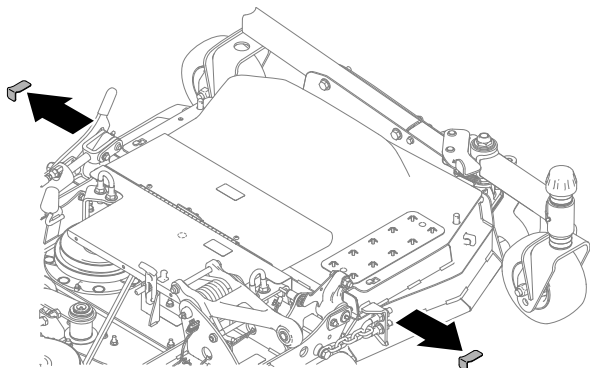

Figure 37
6. Remove the shims or feeler gauges (Figure 37).